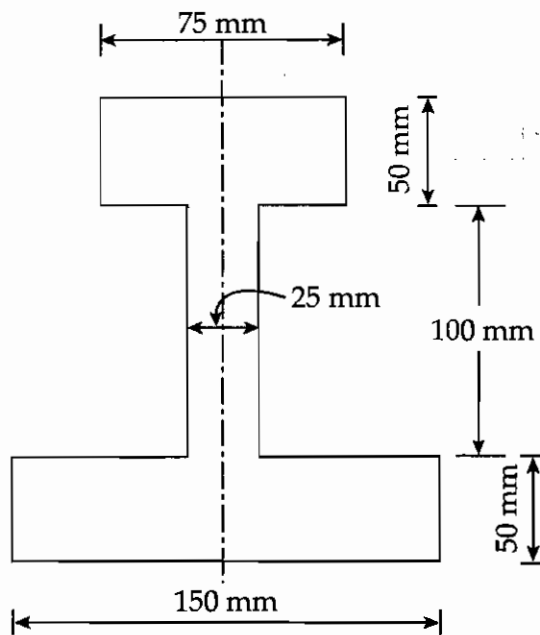

Figure 5
2. (a) The cross-section of cast iron beam is shown in Figure 5. The top flange is in compression and bottom flange is in tension. Permissible stress in tension is  $30 \text{ N/mm}^2$  and its value in compression is  $90 \text{ N/mm}^2$ . Determine how much concentrated load beam can carry at center of 5 m span. Given ends of beam are simply supported. 10